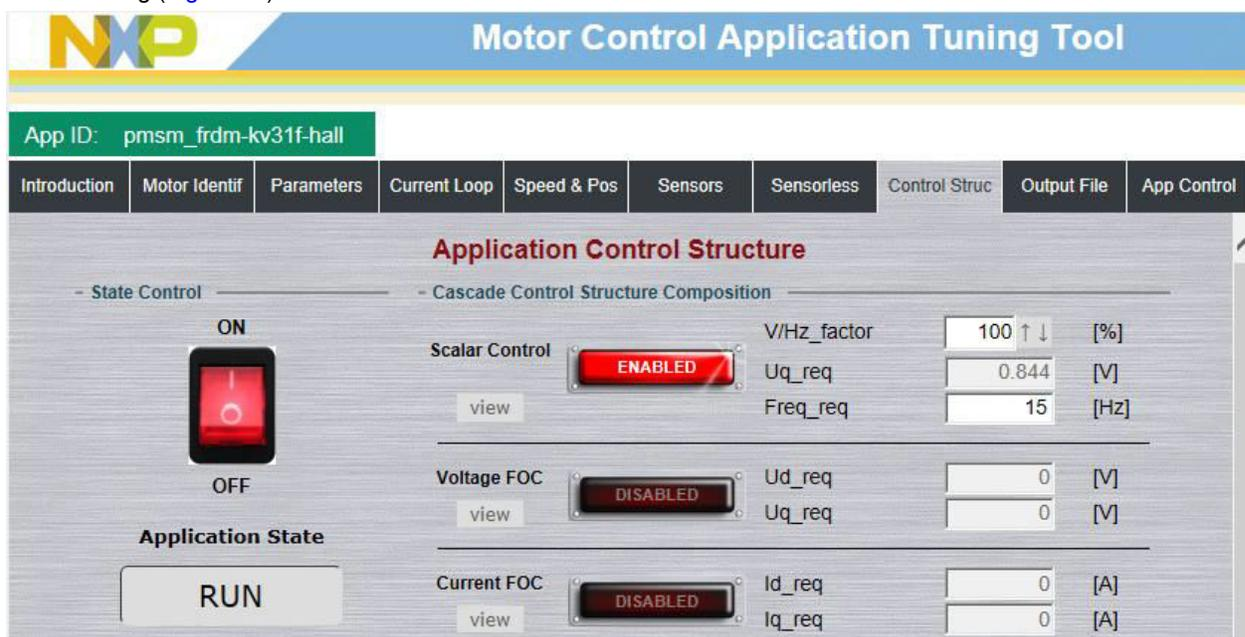

Figure 47. MCAT scalar control
- Set the required frequency value in the “Freq\_req” field; for example, 15 Hz in the “Scalar Control” section. The motor starts running (Figure 47).